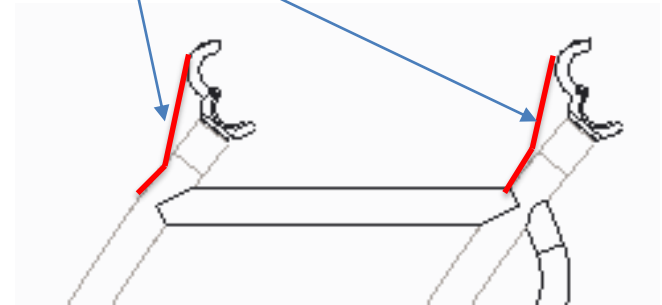

Fig. 2
- Open clamps and use masking tape to hold clamps in open position. See Fig. 2